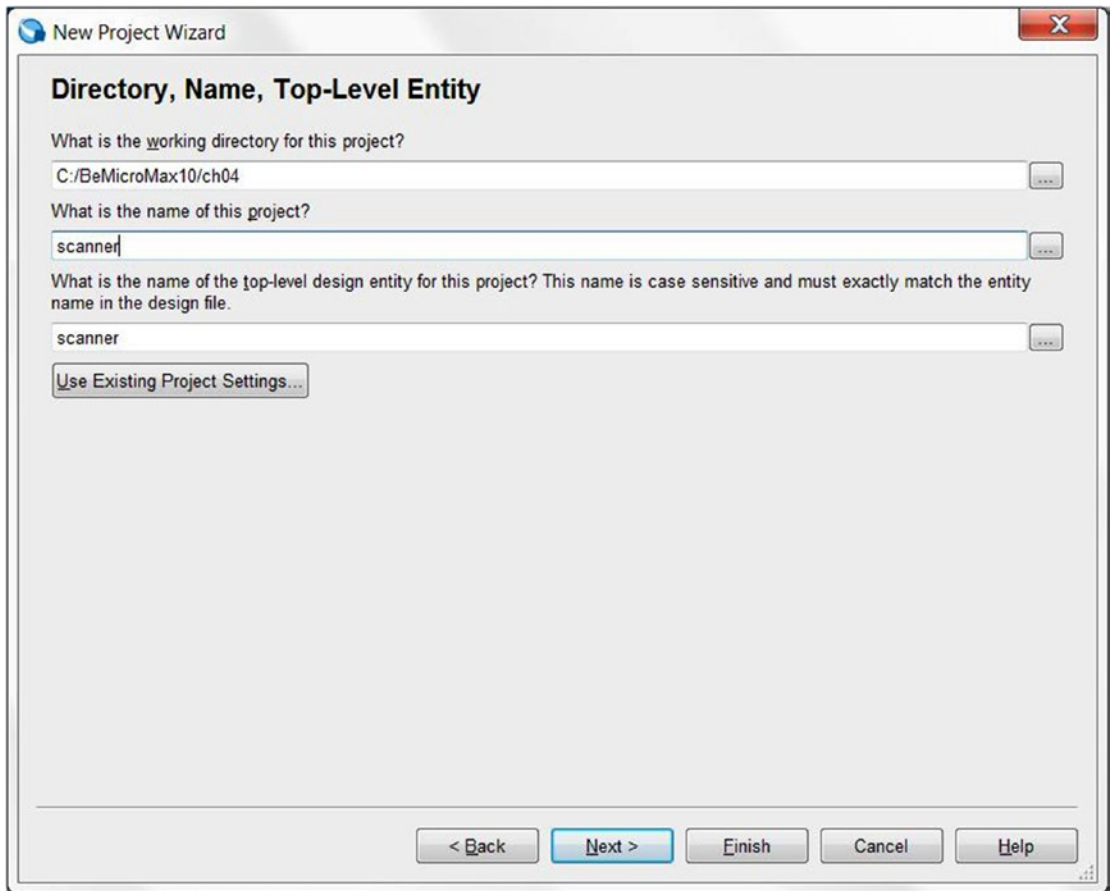

Figure 4-4. Quartus Prime New Project Wizard dialog box—Directory, Name, Top-Level Entity
4. Enter the information shown in Figure 4-4 on the Directory, Name, Top-Level Entity page of the New Project Wizard and then click **Next**. If the working directory for this project is a new location, the software will ask you “Do you want to create it?” Just click **YES**. This page is where you choose the location and name for the project as well as the name of top-level design entity, which is the name of the design. The Quartus Prime will first search for the top-level design entity in the project folder. Most of the time the project name and top-level design entity are the same.